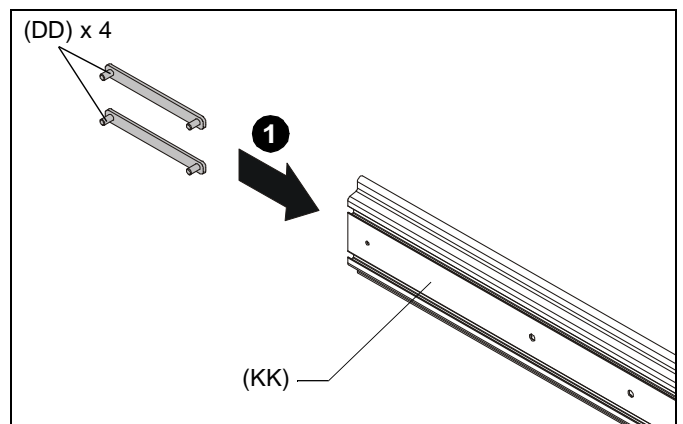

Figure 7
1. Slide four T-slot studs (DD - two in top mounting rail slot and two in bottom) into end of mounting rail (KK). (See Figure 7)